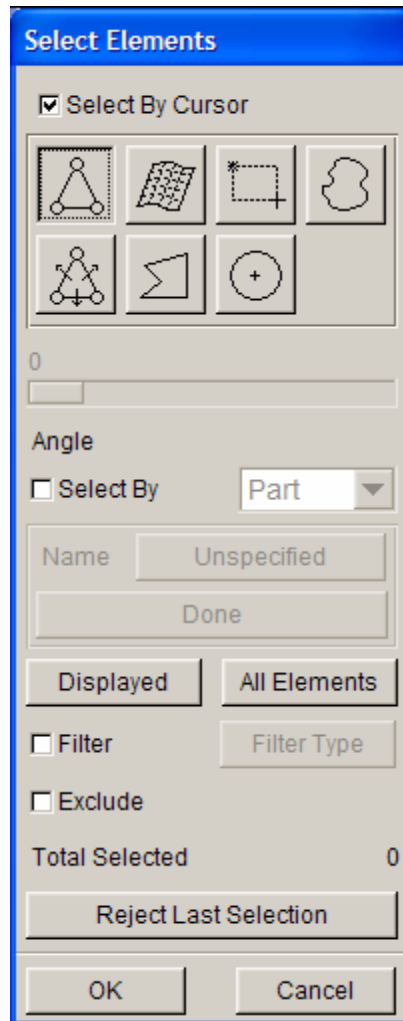

Figure 7.20 Select elements dialog box
12. Next, toggle on the checkbox of Offset elements option. Then, click on the **Select...** button to display the SELECT ELEMENTS dialog box illustrated in Figure 7.20.